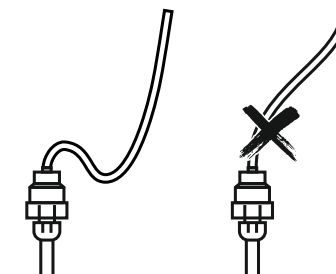

Fig. 3. Loop cable installation
- It is recommended to install the cable in a loop to prevent a large amount of water from running down the cable onto the sensor body. See fig. 3.